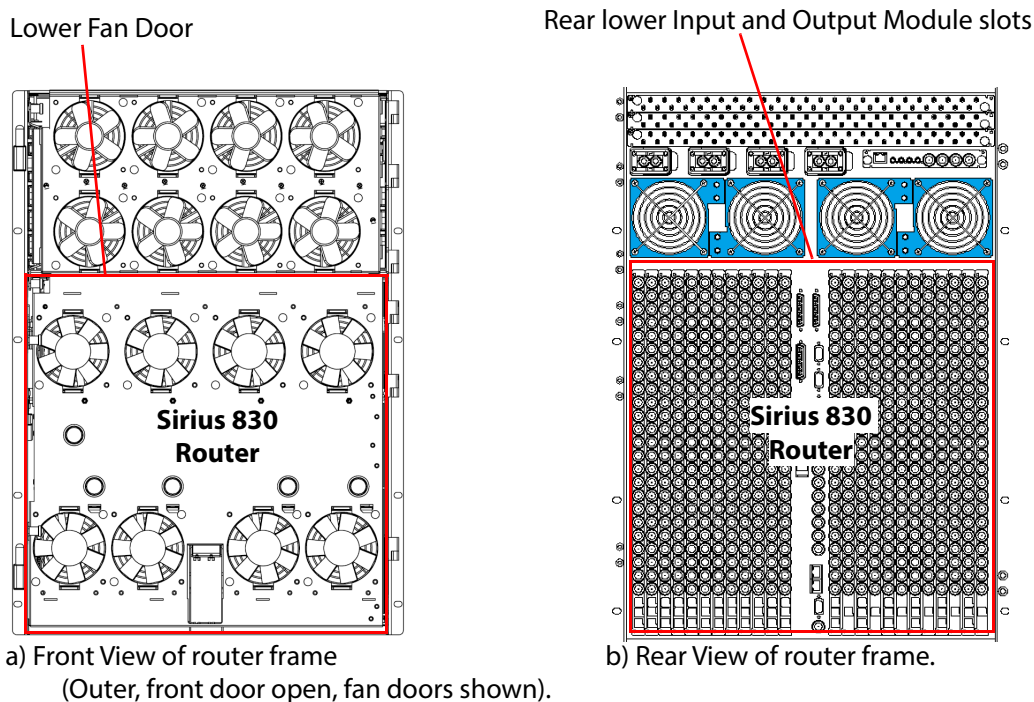

Fig. 3-5: Lower section of Sirius 830 router frame for MV-830 Multiviewer installation,
STEP 1: Locate the relevant section of the router frame. Table 3-1 states which section of the router frame (both front and rear) to look at. This is shown in Figure 3-5.